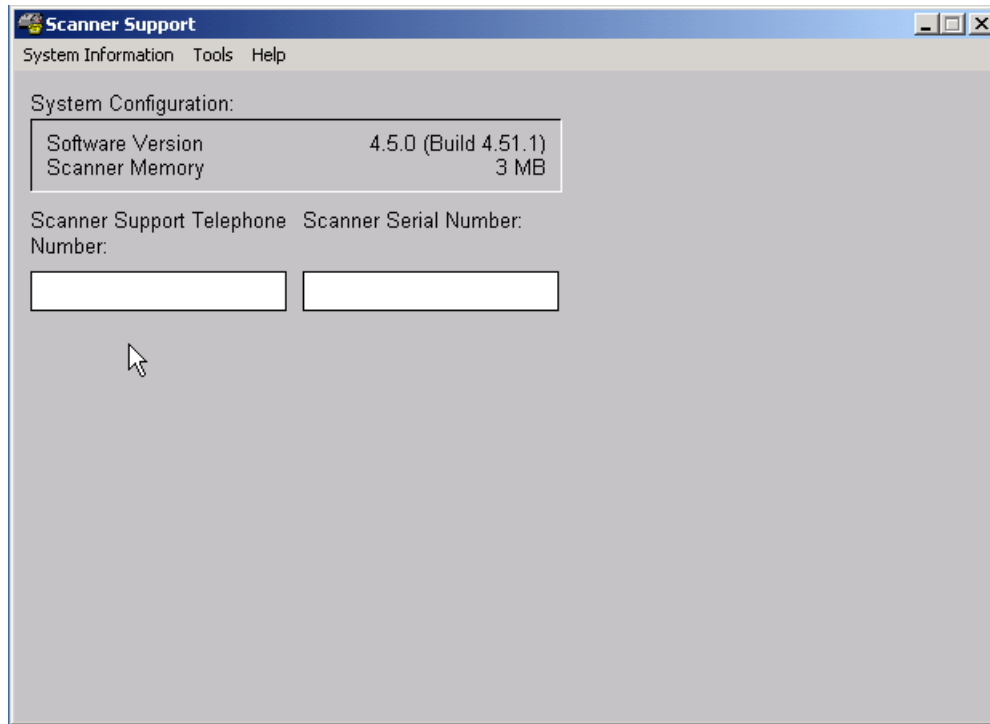

Figure 4-2. Scanner Support dialog box
1. Select [Start: Programs: Xerox DigiPath Production Software: Scanner Support (DocuImage 620S)] from the Windows desktop. The Scanner Support dialog box opens. See Figure 4-2.